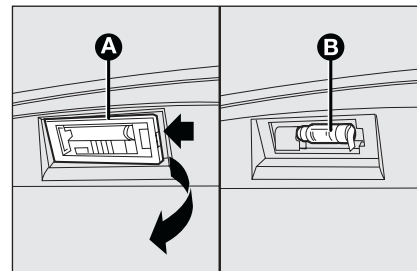

fig. 31
- work in the point shown by the arrow and remove the transparent **A**-fig. 31;